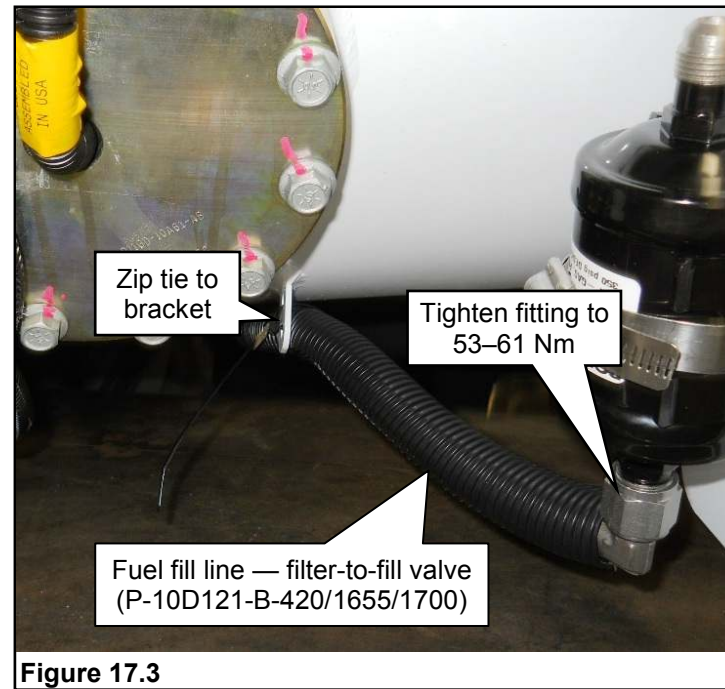

Figure 17.3
15. Place convolute over the fuel fill line and install the line to the fuel filter. Tighten the fitting to 53–61 Nm. **Figure 17.3.**